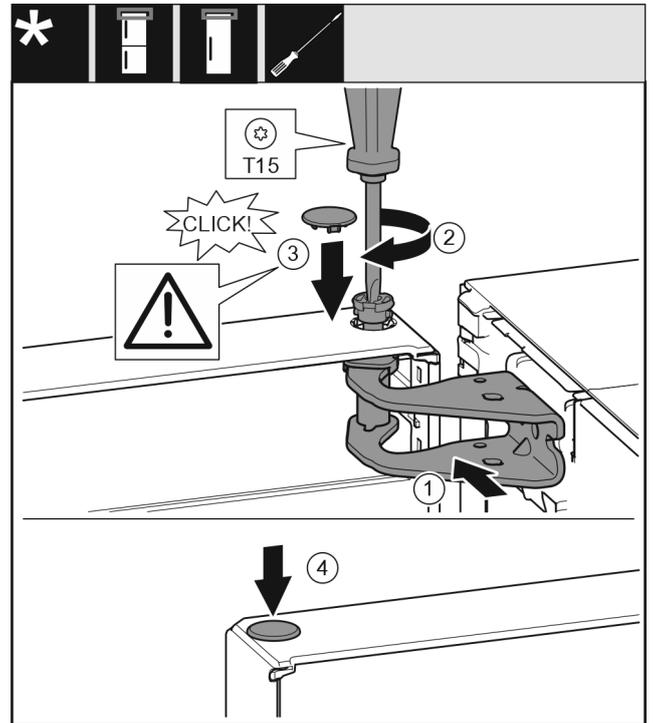

Fig. 45
- ▶ Align the top door with the opening in the swap bearing block Fig. 45 (1).
- ▶ Insert the bolt Fig. 45 (2) and use screwdriver to tighten it.
- ▶ Insert the cover Fig. 45 (3).
- ▶ Check that the cover Fig. 45 (3) is resting on the door.
- ▶ Insert the cover Fig. 45 (4).